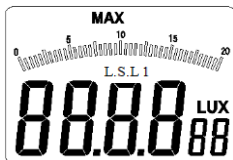

Figure 3-1-3
- Press and hold “MAX/MIN” key for a short time, “MAX” will appear on top LCD interface (as shown in figure 3-1-3);